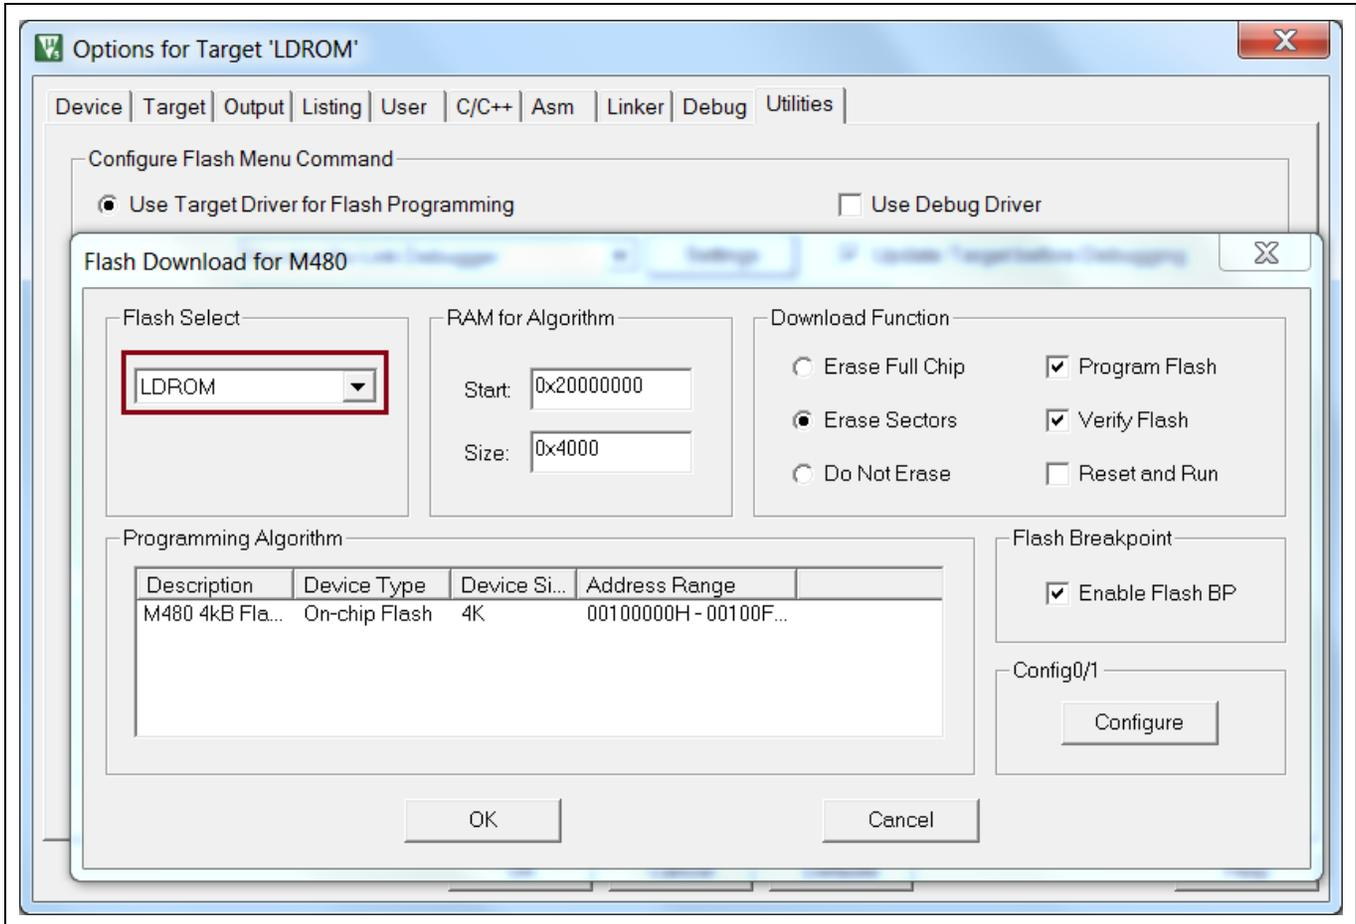

Figure 4 Flash Select LDROM
Step 2: Go to the Utilities tab page and double click Settings button. It will pop the window and select "LDROM" in the Flash Select item, as shown in Figure 4.